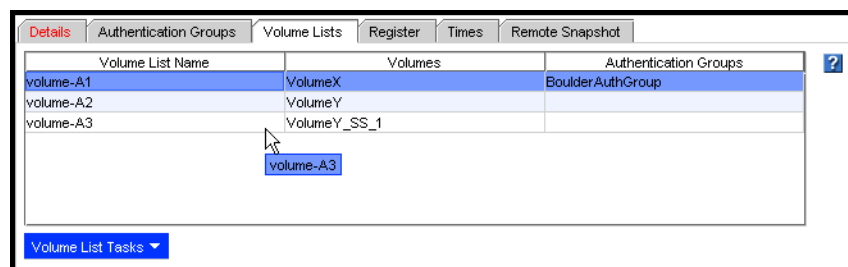

Figure 191. Viewing the Volume Lists Tab
- Select the Volume Lists tab, shown in Figure 191.